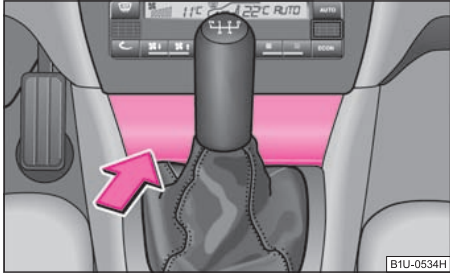

Fig. 88 Centre console: Front ashtray
- Press on the bottom part of the cover of the ashtray at the point of the arrow => fig. 88.